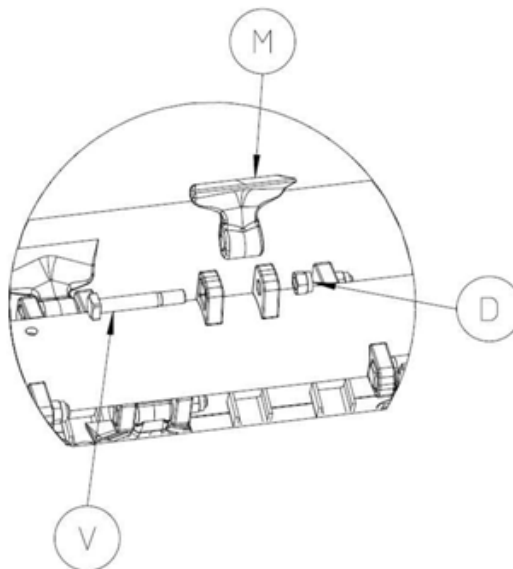

Figure 41
5. Loosen the nut D, hold the hammer M and slide the screw V (Figure 41). When the hammer has been removed check the state of wear of the supports, in particular the ovalisation of the holes, the square seat of the screw head and peripheral wear. If the phenomena describe are present, contact the manufacturer for indications;